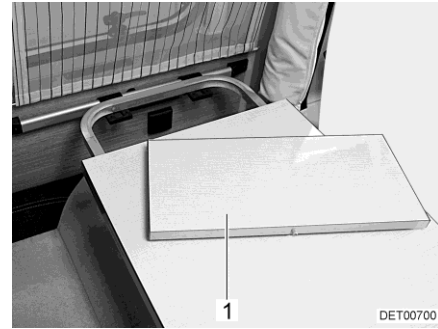

Fig. 70 Table top extension
The suspension table size can be enlarged by inserting a table top extension (Fig. 70,1).
- Insert the table top extension (Fig. 70,1) into the table extension.
- Remove the table top extension (Fig. 70,1) and store it securely.